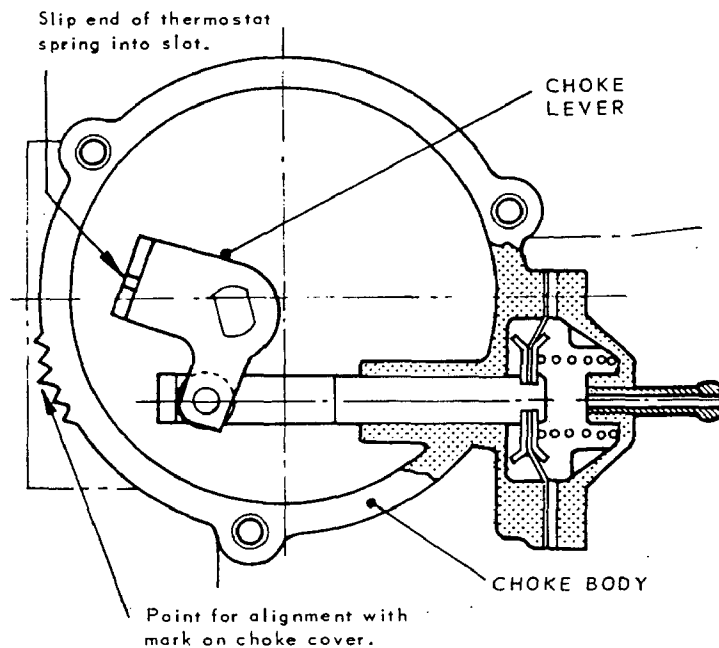

Fig. 6
The automatic choke is adjusted by the manufacturer to satisfy all normal running conditions and therefore should not immediately be tampered with. In the event of repair or abnormal conditions, adjustment can be made in the following manner and with reference to Fig. 6 and Fig. 7.
1. Initially, slip end of *thermostat spring* into slot in *choke lever* when mounting choke cover, see Fig. 6.